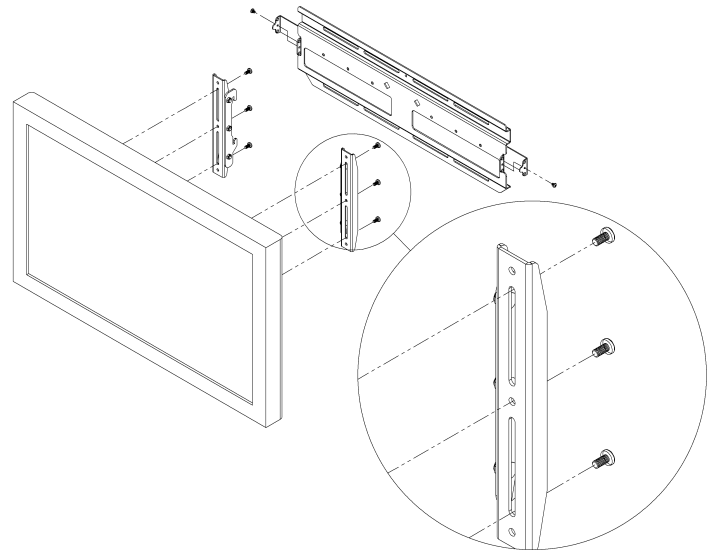

Figure 2. Place Brackets on Display
1. Place the interface brackets (20 and 30) on the back of the display, aligning the holes with the mounting inserts. See Figure 2.
2. Secure the left and right interface bracket assemblies (20 and 30) to the display using four screws (40) or 120.
**NOTE:** (130) may need to be used in the top 2 holes on some displays.